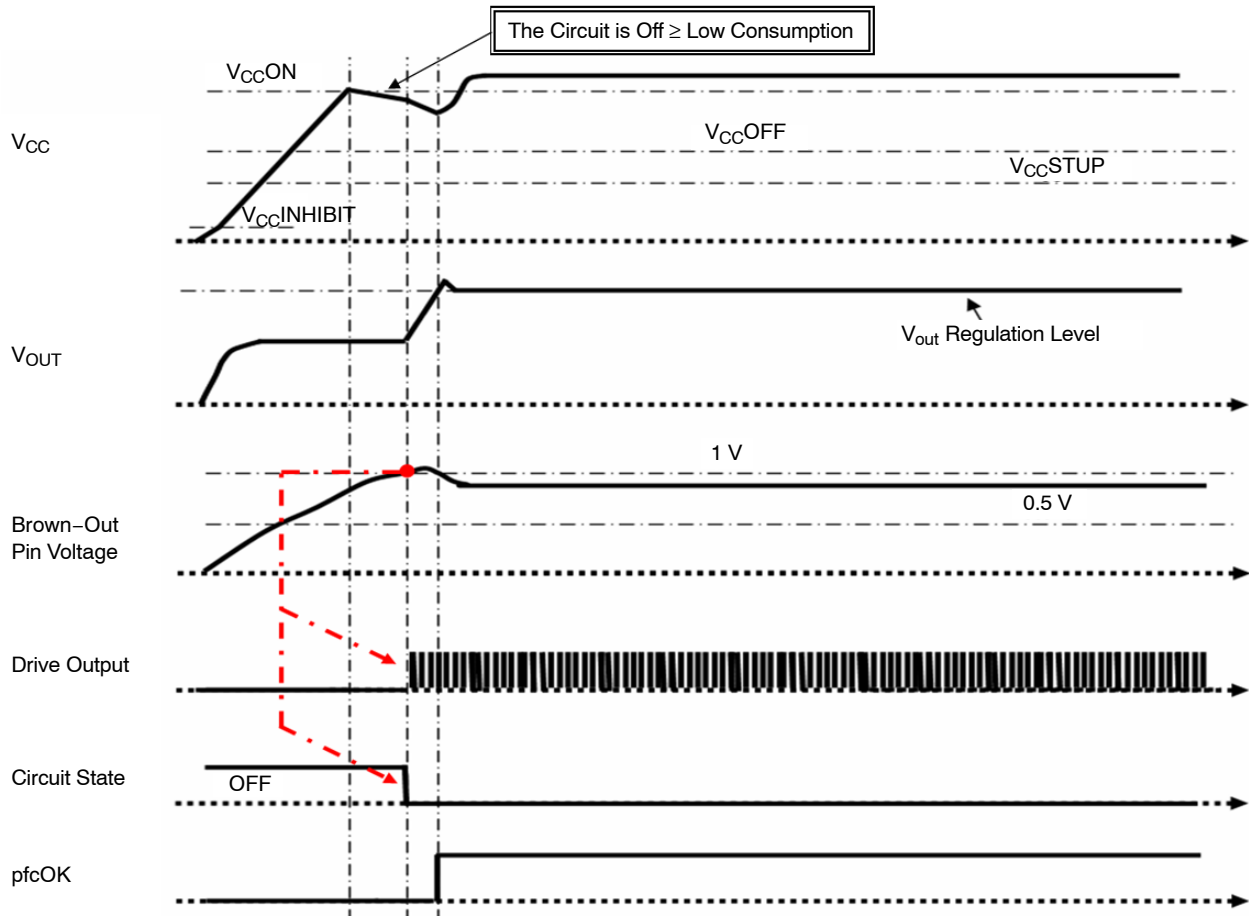

Figure 71. Startup and Brown Out Conditions
- As a function of the brown-out pin voltage (Figure 71).